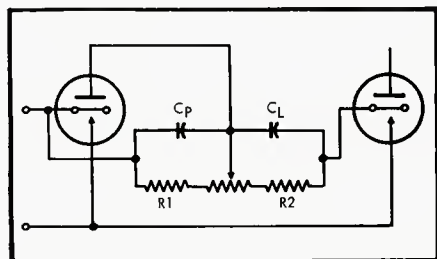

Fig. 6. Basic circuit for the bass control.
For bass control, the ends of a potentiometer are connected as shown in Fig. 6, with the slider connected to the collector. As the slider is moved to the right,  $Z_F$  remains capacitive and rising as the frequency is lowered, while  $Z_L$  becomes resistive and therefore constant with frequency. Thus, according to Eq. (1), the bass signals are increased relative to midband signals. Conversely, as the slider is moved to the left, the denominator of Eq. (1) increases while the numerator remains constant as the frequency is lowered, thereby producing bass attenuation. In each case, as the resistance is varied, the turnover frequency, or frequency at which the response departs from its midband value, varies, thereby producing the desired variable turnover characteristics. The resistors  $R_1$  and  $R_2$  limit the maximum bass turnover frequency to a suitable design value, such as 800 cps.
$Z_F$  for treble boost, or with  $Z_L$  for treble attenuate, as may be seen easily by inspection of Eq. (1). For the case of treble boost,  $Z_F$  will comprise the series combination of the fixed feedback capacitor and the series resistance. The turnover frequency will be given by equating this resistance to the reactance of the feedback capacitor. Treble attenuation is obtained by removing the resistance in series with the feedback capacitor and inserting resistance in series with the load capacitor. The turnover for treble attenuation is the frequency at which the inserted resistance equals the reactance of the load capacitor. The series resistance must appear only in one divider arm at a time in order to secure variable turnover characteristics. The arrangement shown at (A) in Fig. 7 using a tapped potentiometer performs this function. As the slider is moved upward, series resistance appears in the feedback lead, but not in the load circuit as shown at (B) in Fig. 7, thereby giving treble boost; conversely, as the slider is moved below the fixed tap, series resistance appears in the load circuit but not in the feedback circuit as indicated at (C) of Fig. 7. The resistance of the potentiometer between the collector and the current division point is negligible compared with the output impedance of the transistor collector, and may be ignored. The combination of the circuits of Figs. 6 and 7 gives the configuration shown in the second stage of Fig. 2.
The choice of a bass-control potentiometer would be as simple as that of the treble control if we had a potentiometer which shunted only one capacitor at a time. If, for example, bass boost is desired, a resistance should be placed in shunt with the load capacitor  $C_L$ , and the resistance shunting the feedback capacitor should be negligibly high. If a potentiometer is connected as shown in Fig. 6, the resistance is not removed from its position shunting the feedback capacitor, so that at some very low frequency, the presence of this resistance will cause the response to return from its rising characteristic (as frequency is decreased) to a flat characteristic. Hence, a certain amount of bucking of the boost and attenuate portions of the bass control exists. This may be viewed in another way which may be enlightening. The current divider at the collector of the transistor is essentially a capacitive divider at midfrequencies. At extremely low frequencies, the reactance of both capacitors becomes very high so that we have essentially a resistive divider made up of the resistances of the potentiometer on either side of the slider. The response will therefore be controlled by the capacitive divider